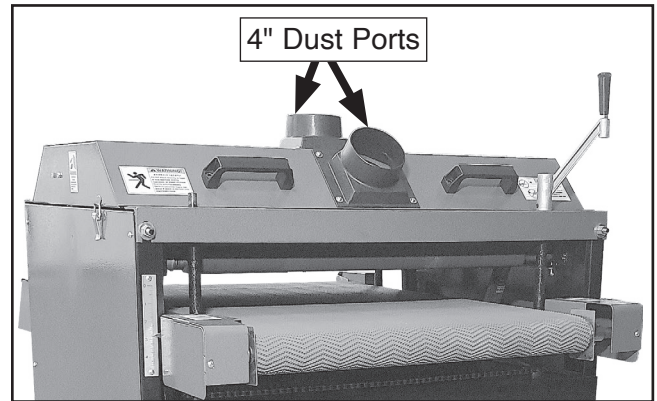

Figure 17. Location of dust ports (G1066R shown).
1. Fit (2) 4" dust hoses over dust ports (see **Figure 17**), and secure in place with hose clamps.